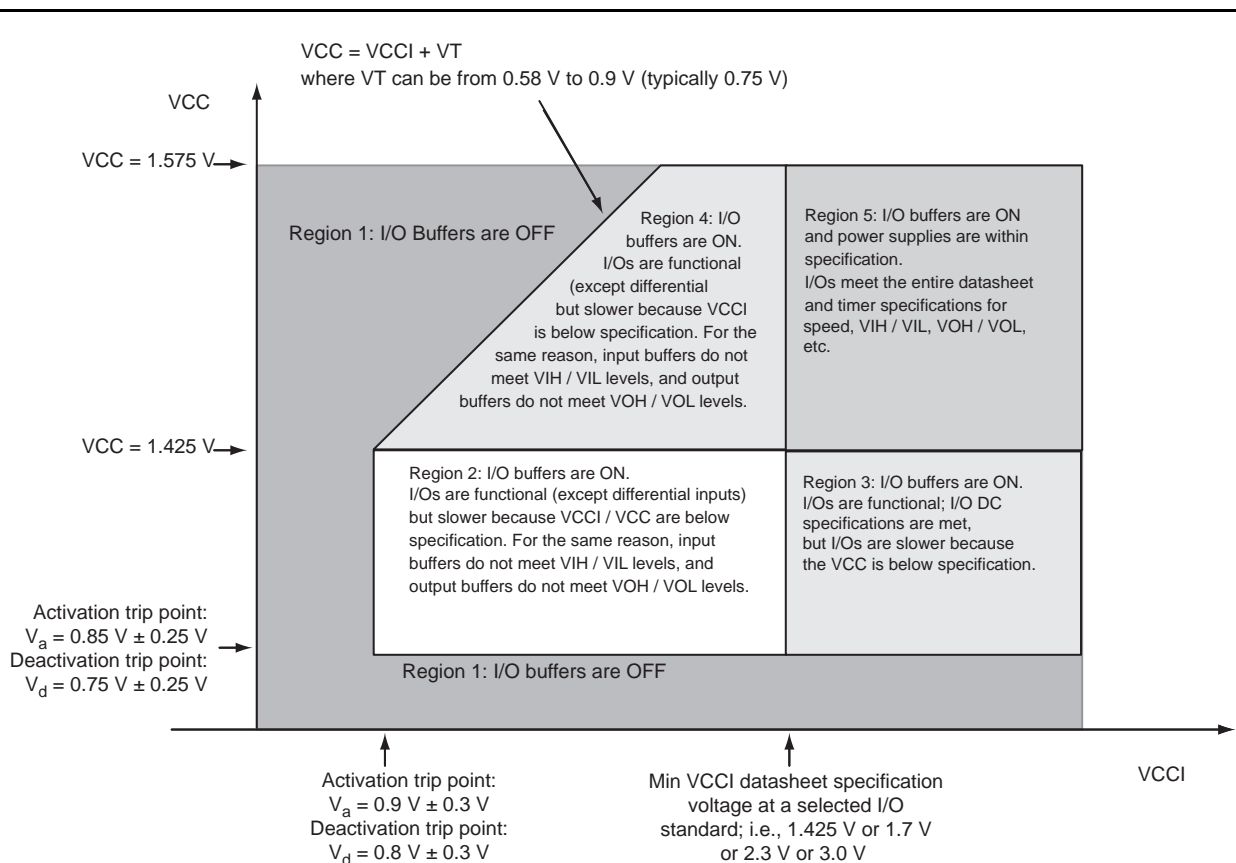

Figure 2-1 • I/O State as a Function of VCCI and VCC Voltage Levels
Sophisticated power-up management circuitry is designed into every ProASIC®3E device. These circuits ensure easy transition from the powered-off state to the powered-up state of the device. The many different supplies can power up in any sequence with minimized current spikes or surges. In addition, the I/O will be in a known state through the power-up sequence. The basic principle is shown in Figure 2-1 on page 2-4.
1. VCC and VCCI are above the minimum specified trip points (Figure 2-1 on page 2-4).
Actel recommends using monotonic power supplies or voltage regulators to ensure proper power-up behavior. Power ramp-up should be monotonic at least until VCC and VCCPLXL exceed brownout activation levels. The VCC activation level is specified as 1.1 V worst-case (see Figure 2-1 on page 2-4 for more details).